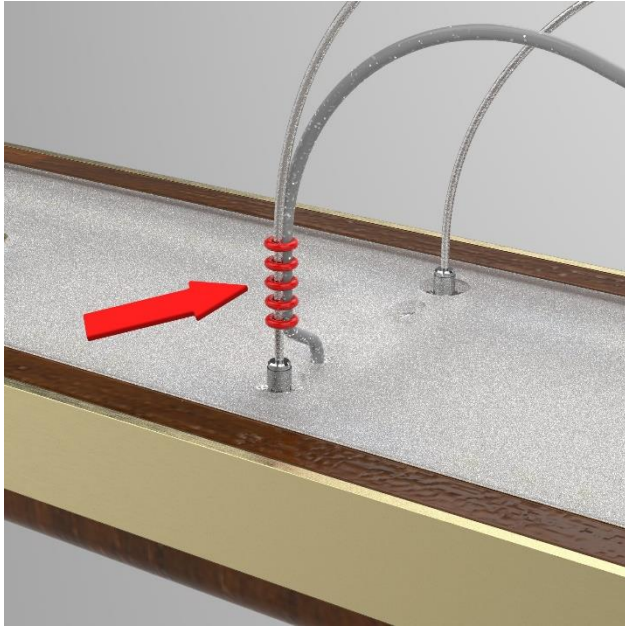

Figure 5
- Slide all O-rings (shown red) to the bottom of the power cord (Fig 5)